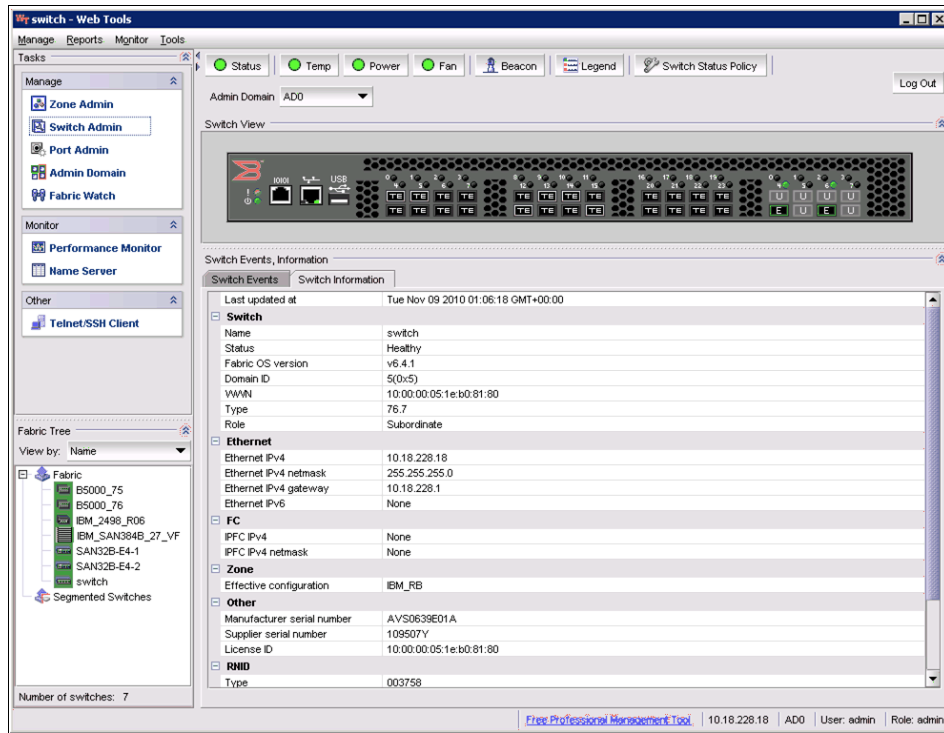

Figure 8-76 IBM Converged SAN B32 running Fabric OS v6.4.1
6. The firmware download and upgrade process takes a while (up to 30 minutes). When it completes, you have to close and reopen Web Tools and reconnect to the switch. As shown in Figure 8-76, the switch now runs Fabric OS v6.4.1 (Figure 8-76).